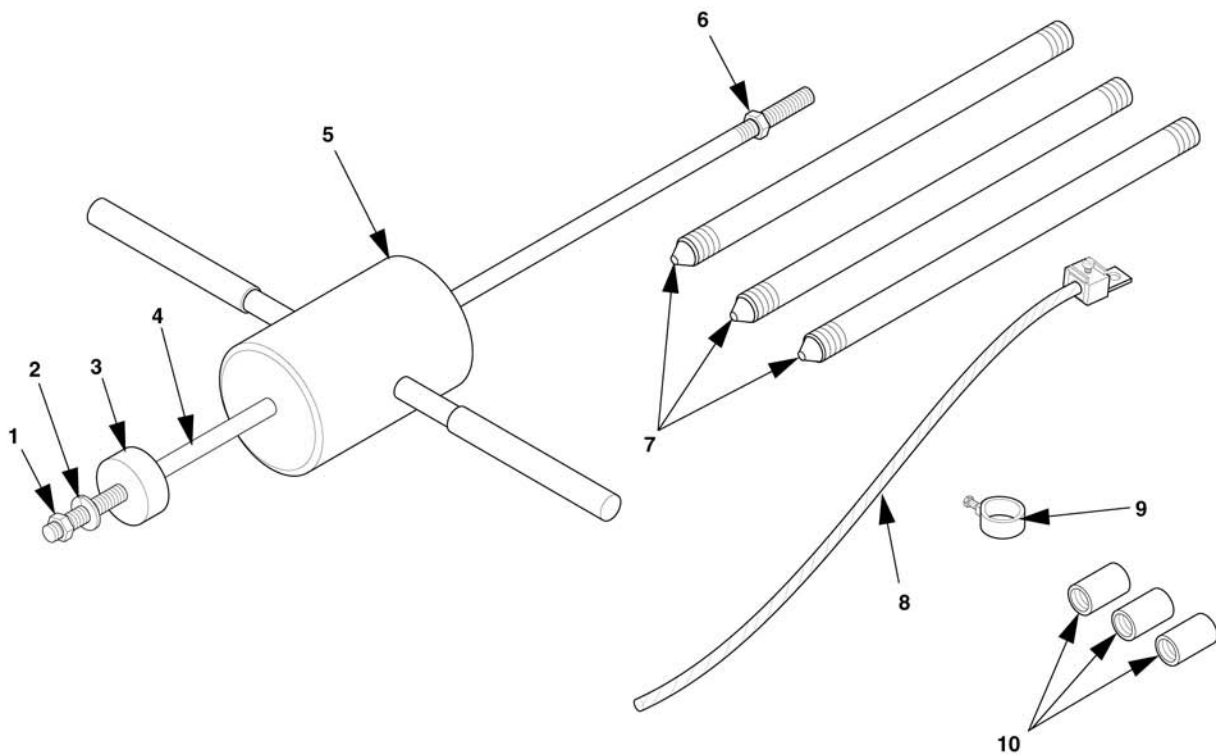

Figure 2-5. Ground Rod and Slide Hammer.
2-3.3 Grounding of Generator Set. Ground the equipment in accordance with Army Field Manual FM 5-424. Typical ground rod installations are shown in Figure 2-5. If a ground rod is used, install and connect it as follows:
- a. Remove ground rod (7), grounding strap (8), an slide hammer (5) , (Figure 2-5) from accessory box (Figure 1-2).
- b. Perform assembly steps as follow on the next page (1) through (4).
- (1) Remove nut (6), (Figure 2-5) from end of rod (4) and retain.
- (2) Remove hammer (5) from rod (4) and thread nut (6) on end of rod to prevent loss.
- (3) Store hammer (5) and rod (4) with assembled parts in accessory box.